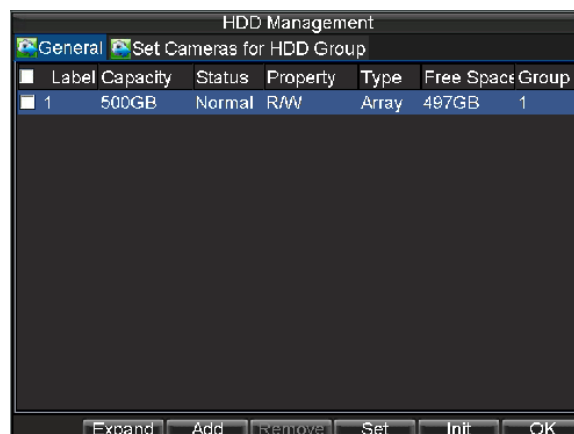

Figure 8. HDD Management Menu
1. Navigate to the HDD Management menu by going to Menu > HDD Management. The HDD Management menu is shown in Figure 8.